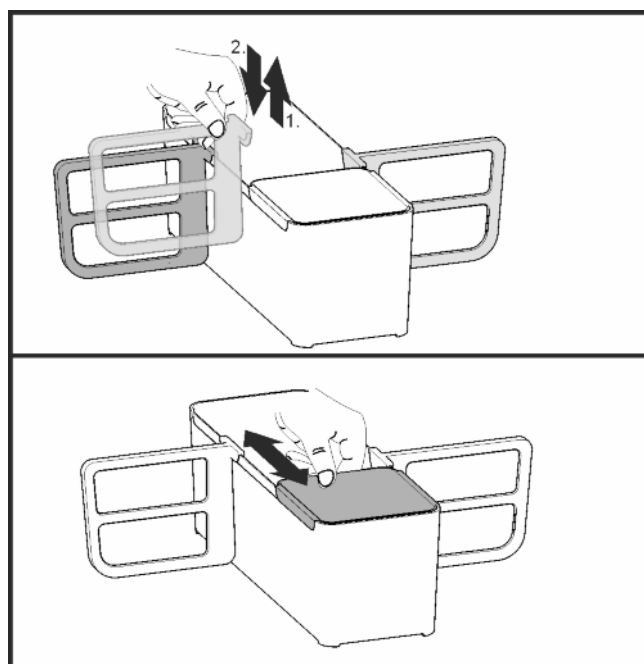

*Fig. 15*
- ▶ Inserting the Fruit & Vegetable-Safe cover: Insert the guide pieces into the rear retainer *Fig. 15 (1)* from below, then snap the plate into the retainer *Fig. 15 (2)* in the front.